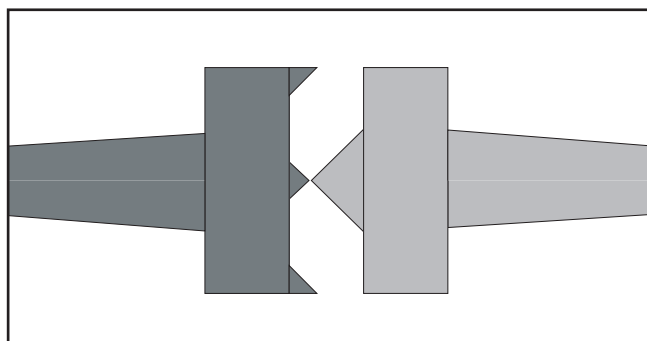

Figure 50. Center tips touching to ensure alignment.
3. Install the centers, then slide the tailstock up to the head so that the centers are facing each other, as illustrated in **Figure 50**.